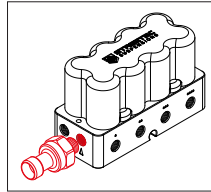

Fig. 4: Valve block
1. Mount directly into the side connection of the valve block (Fig. 4)